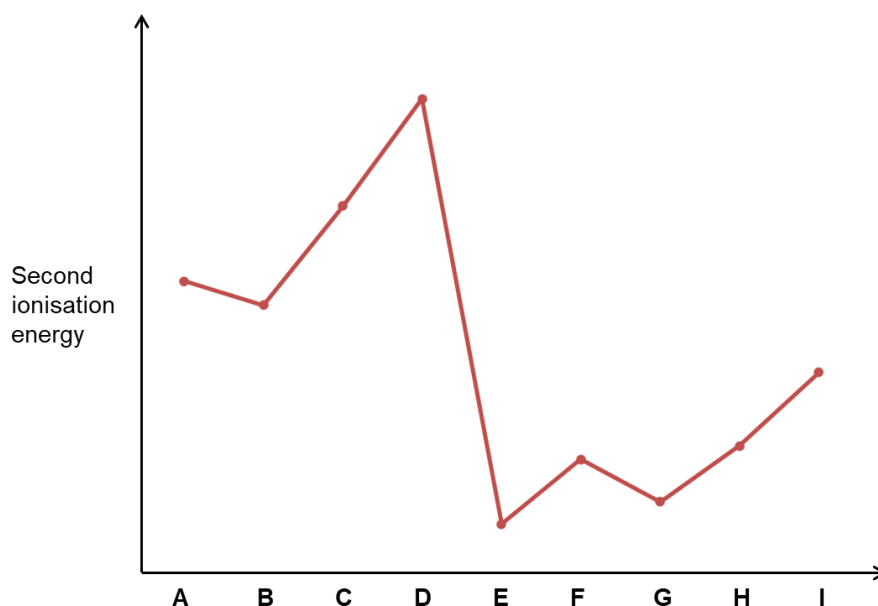

Fig. 6.3
- (d) Figure 6.3 shows the second ionisation energies of nine consecutive elements **A** to **I** with atomic numbers below 20 in the Periodic Table. Labels **A** to **I** are not the atomic symbols of the elements.